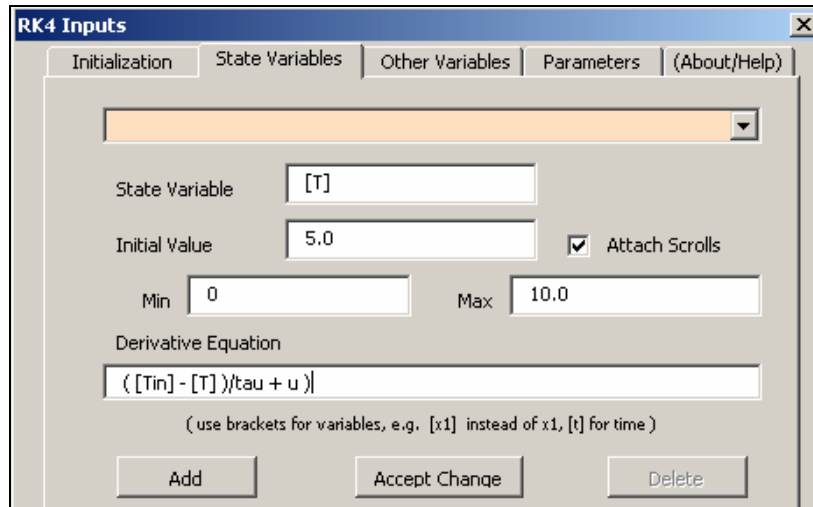

Figure 4. STATE VARIABLES Folder Tab.
3. Next, select the [**State Variables**] folder tab and input the information as shown in Figure 4. (You can use the <ENTER> key or sometimes the <TAB> key to move the focus to the next input prompts.)
Note: put the extra left parenthesis as shown in Figure 4 as an intentional error. Then click the **Add** button. A warning should pop out to warn of a parenthesis mismatch error.